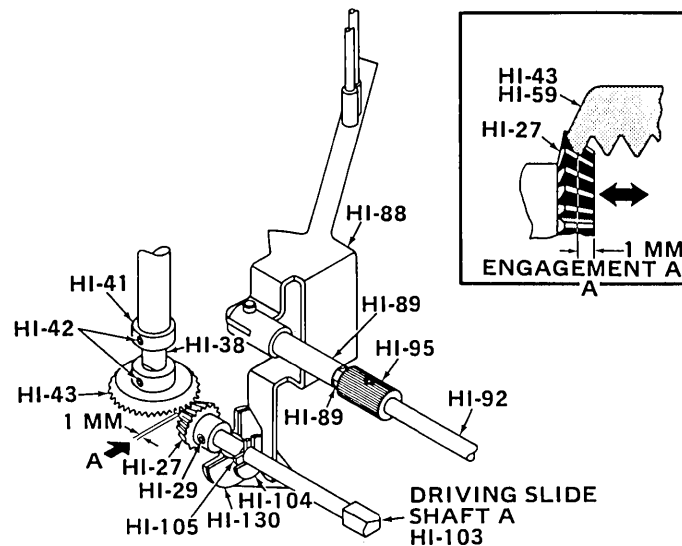
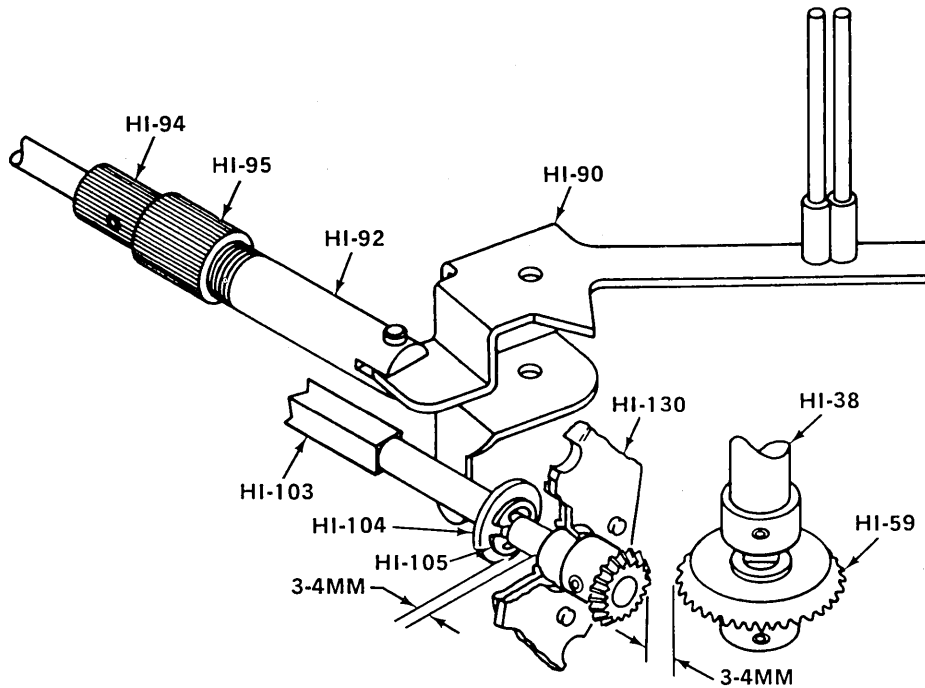
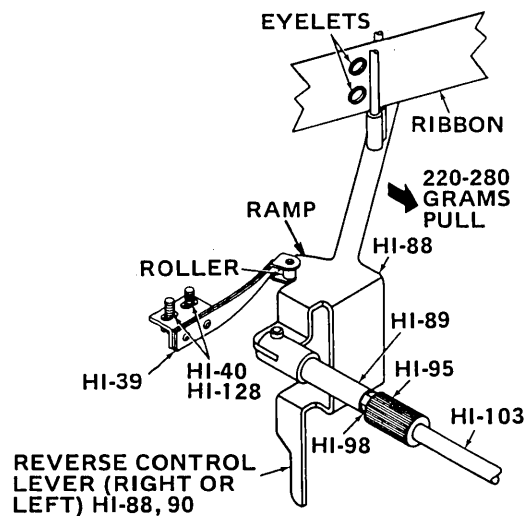

Figure 5-14. RIBBON FEED MECHANISM (REAR OF PRINTER, LEFT SIDE)
Figure 5-16. DRIVING SLIDE SHAFT A - ADJUSTMENT
Figure 5-18. RIBBON REVERSE TIMING
Torque transmission route for left and right ribbon feed mechanism is determined by position of driving slide shaft A (HI-103) (Fig. 5-16) controlled with control spring (HI-39) (Fig. 5-18) and left and right reverse control lever (Fig. 5-18/90, 88).
#### A. Bevel Gears (Left and Right) (HI-27, 43) and (HI-27, 59) (Refer to Figure 5-14)
2. Adjust bevel gear (HI-27) (left side) with respect to bevel gear (HI-43) by loosening and tightening allen-head screws (HI-29) to obtain engagement A of approximately one millimeter (0.039-in.) . See Fig. 5-14, and View A.
When engagement A (Figure 5-14) has been properly adjusted between gears (HI-27) with respect to bevel gears (HI-43, 59), adjust bevel gears (HI-43, 59) alternately to obtain correct backlash operation of gears in the following manner:
1. When engagement A and B of bevel gears has been made (Figure 5-14, 5-15), one snap ring (HI-105) always contacts support bushing (HI-130); the distance between other snap ring (HI-105) and the support bushing (HI-130) on shaft (HI-103) is 3 to 4 millimeters (0.12-0.16-in.). (See Figure 5-16). Note that distance between bevel gear (HI-59) and bevel gear (HI-27) is also 3-4 mm.
2. When bushings and holders (HI-133, 130) on left and right side of printer are installed, the driving slide shaft A (HI-103) should move freely and travel an overall distance to 3.0 to 4.0 millimeters (0.12-0.16-in.) when engaged alternately in either direction with bevel gears (HI-27, 43) or (HI-27, 59). (See Fig. 5-16).
### E. Control Spring (HI-39) - Ribbon Reverse Timing (Fig. 5-18)
1. When reverse control lever (HI-88) turns left by moving ribbon reversing shaft (HI-92) to left, and if Engagement A (Fig. 5-14) between bevel gear (HI-27) and bevel gear left (HI-43) is decreased to approximately 1.0 mm (0.039-in.), adjust position of control spring (HI-39) by loosening screws (HI-40) and flatwashers (HI-123) to just pass roller mounted on control spring (HI-39), (located underneath left ribbon spool shaft HI-38) over top of ramp of reverse control lever (left) (HI-88). Note, that both ribbon spools will rotate freely when driving slide shaft A (HI-103) is in neutral position (top of ramp).
2. When ribbon of spool (empty condition) containing eyelets (or small plate) is blocked by ribbon guides (part of HI-88, 90), a pull of 220-280 grams (7.7 oz-9.8 oz) is exerted on the reverse control levers (either left or right), which reverses the ribbon movement (See Figure 5-18).
Both bevel gear (HI-27) and bevel gear (right and left) (HI-42, 59) should be timed so that they engage together after roller, mounted on control spring, passes over top of ramp of reverse control lever (HI-88). (Fig. 5-18).